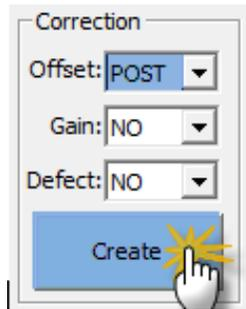

Figure 16
- V. Select **POST** for the **Offset** **Figure 16**